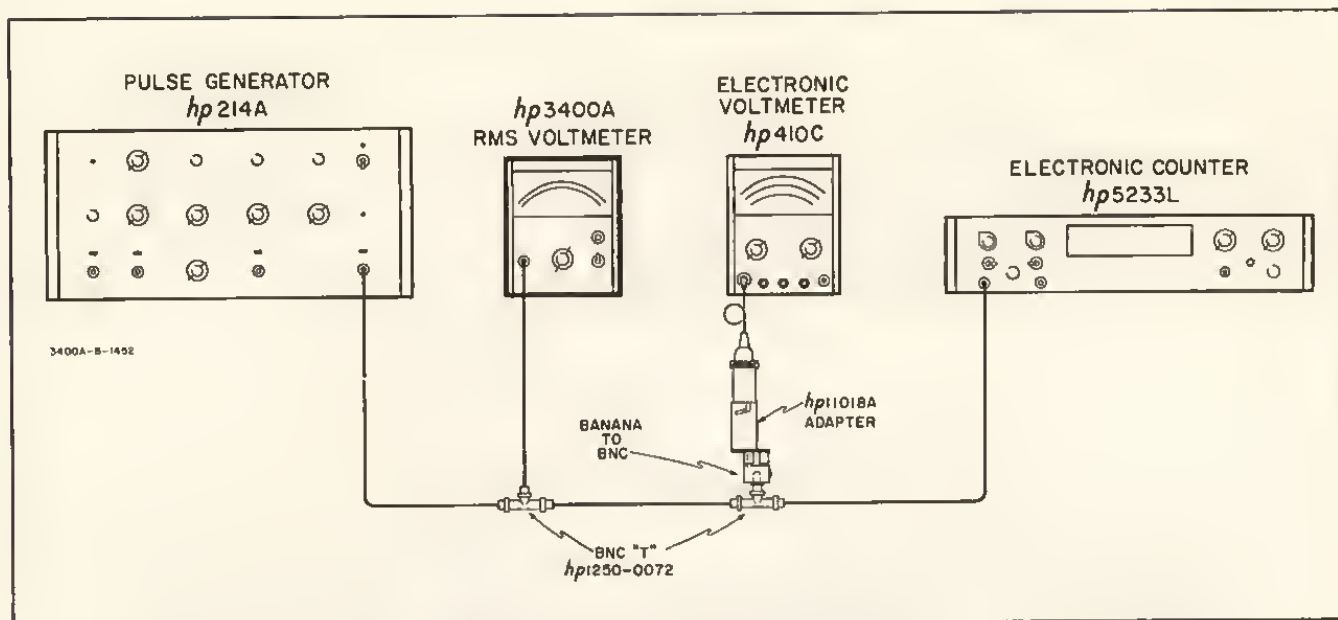

Figure 5-4. Crest Factor Test Setup
- a. Connect test setup as illustrated in Figure 5-4.